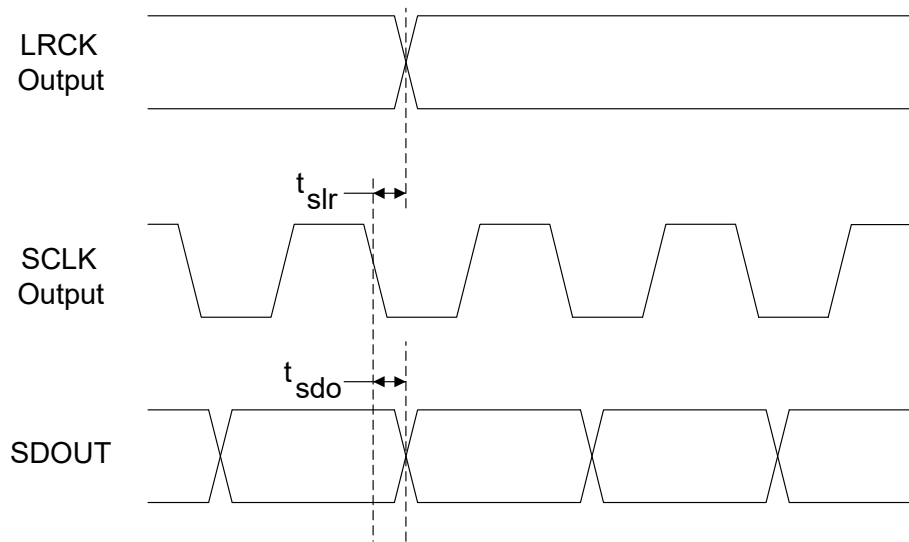
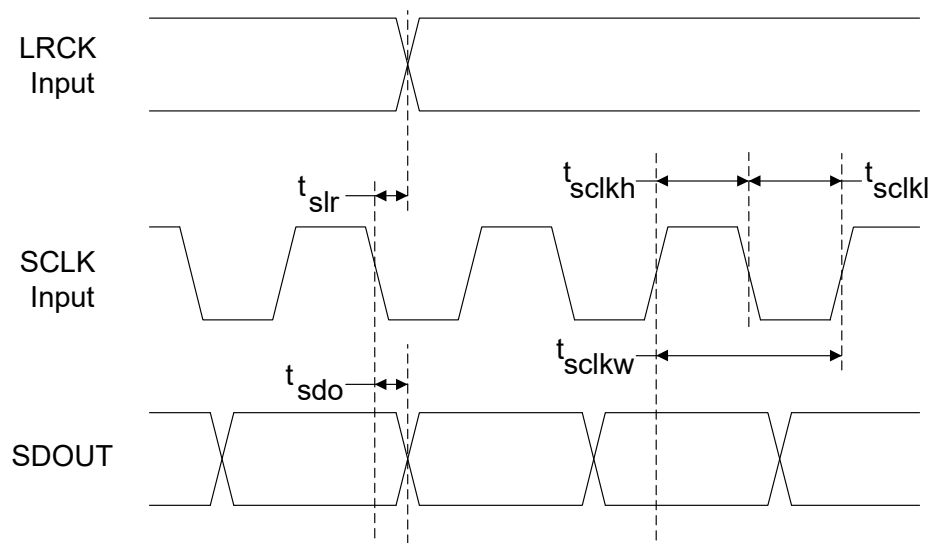

Figure 1. Master Mode Serial Audio Port Timing
Figure 2. Slave Mode Serial Audio Port Timing
18. See Figure 1 and Figure 2 on page 19.